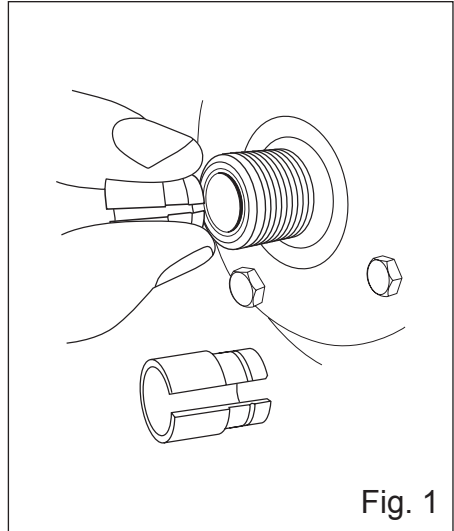

Fig. 1
1. First insert the paddle retaining tube into the vessel connection as shown. This is the small plastic tube with a cut down the side. To insert it you squeeze the tube together and push it into the vessel connection (Fig. 1) and then let it spring back into place.